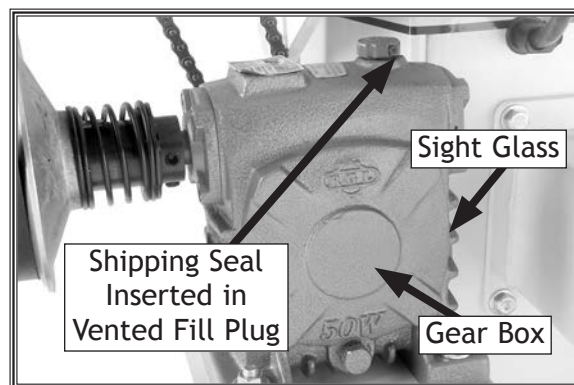

Figure 20. Typical vented fill plug (sight glass not shown).
1. Remove the shipping seal from the side of the vented fill plug (**Figure 20**), if not already done so.